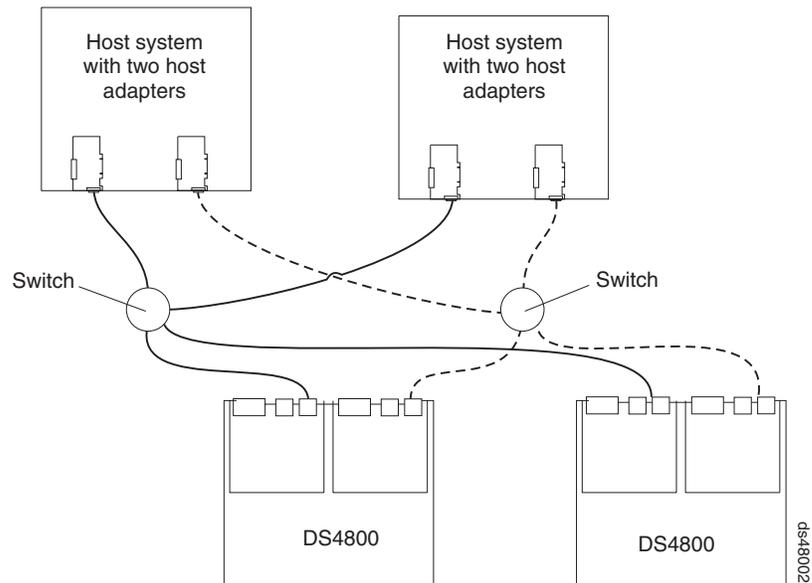

Figure 55. Example of a dual SAN fabric configuration
- Dual SAN fabric configuration, with an additional DS4800 attached, as shown in Figure 55 on page 71
In Figure 55, the fibre channel switches are not connected together. Each switch forms its own SAN fabric.